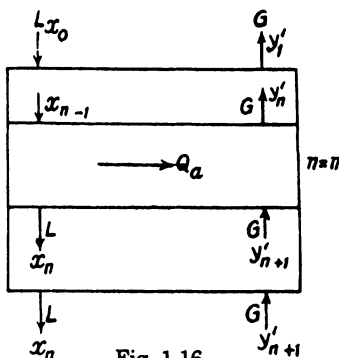

Fig. 1.16
**1.36. Dynamics of a packed liquid extraction column,** shown in Fig. 1.16.